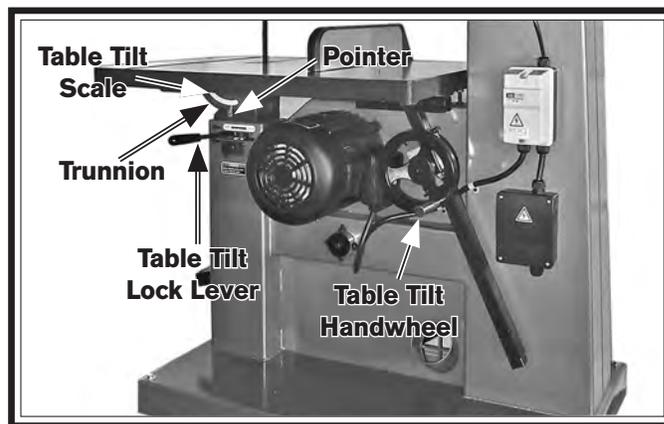

Figure 61. Table tilt controls.
The table can be tilted from 5° left–45° right to make beveled cuts. A table tilt scale with pointer is provided on the trunnion, and a positive stop is provided for quickly returning the table back to 0° from a right-tilt setting (see Figure 61).
2. Loosen table tilt lock lever (see Figure 61).
2. Loosen table tilt lock lever (see **Figure 61**).